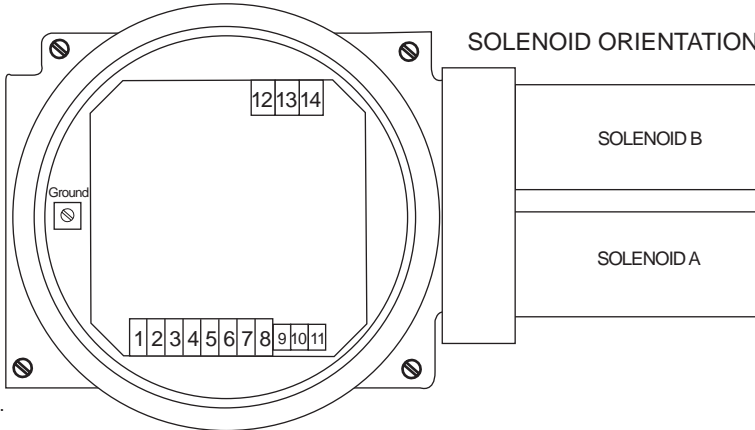

fig 2.
- 1 - Detach solenoid B (refer to figure 2) din plug from valve and detach valve from its mounting by undoing the two M4 screws at its diagonally opposite corners which do not contain "tell-tale" paint.